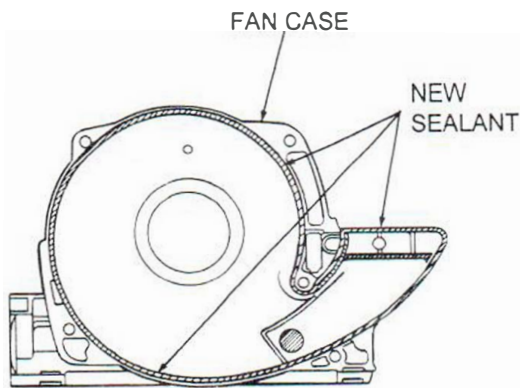

Figure 10. Fan Case Sealant Application
7. Prior to the re-assembly of fan case, clean old sealant from joining surfaces and apply new silicone sealant, P/N T117 or T118 as shown in Figure 10.